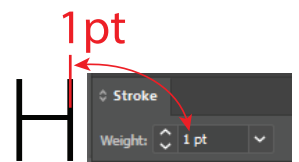

Figure 2a
- Positive line (dark line on light background) needs to be no thinner than 1pt.(Figure 2a)